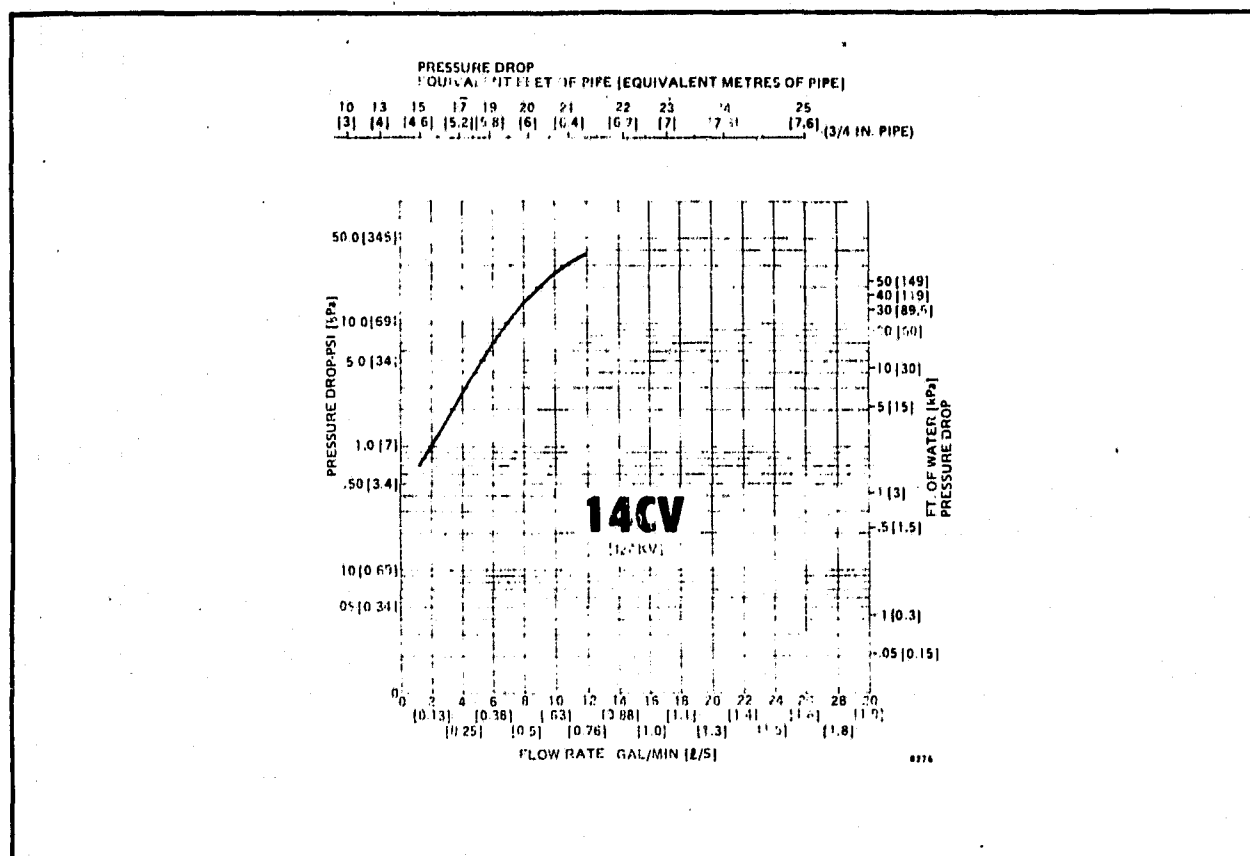

FIG. 2—FLOW CHARACTERISTICS OF Y534A DUAL DIVERTING VALVES.
DETERMINATION OF WATER FLOW CHARACTERISTICS: The pressure drop in psi [kPa], equivalent feet [metres] of pipe, or feet of water [kPa] may be determined by calculating the flow rate, referring to Fig. 2, and using the following procedures.
1. Locate the flow rate at the bottom of the graph in Fig. 2.